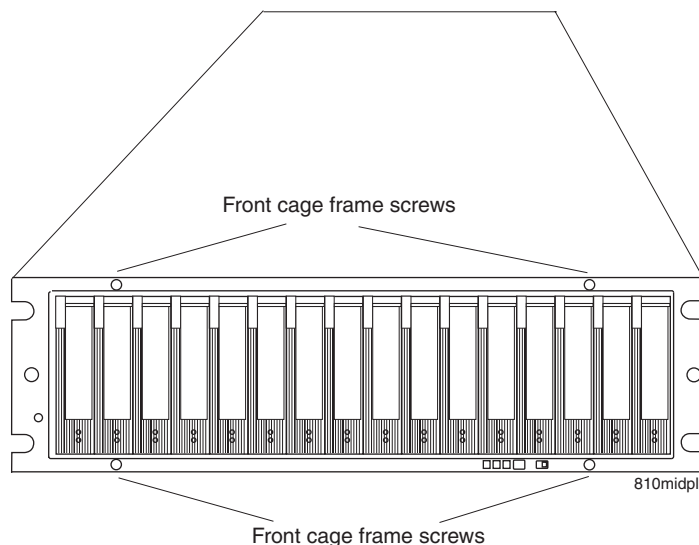

Figure 39. Front cage frame screw locations
10. Use a #1 Phillips screwdriver to loosen the four front cage frame screws on the midplane, as shown in Figure 39.
17. Tighten the four front cage frame screws. See Figure 39 on page 91.